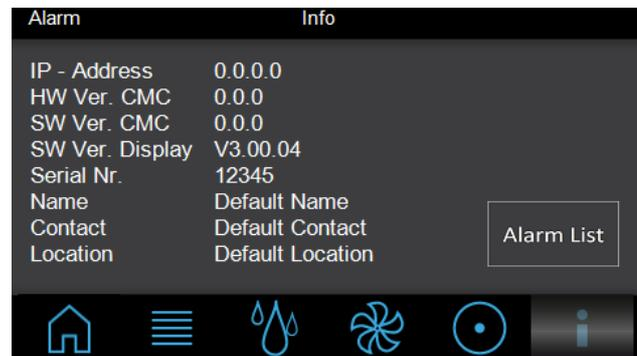

Fig. 65: "Info" screen
- Enter the serial number using the number pad keys. The serial number is displayed on the "Info" screen (fig. 65) under the "Serial No." entry.